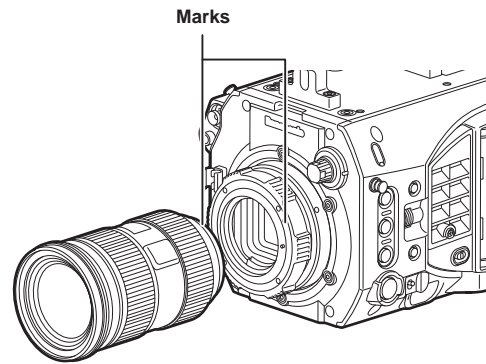

Fig. 2
- 2 Align the mark (red circle) on the lens mount with the mark (red circle) on the lens, and mount the lens. (Fig. 2)